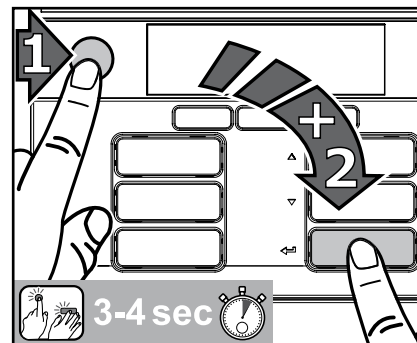

Fig. 23
1. Press first the STOP button and then the enter button ◀ and hold them pressed simultaneously for 3-4 seconds to enter the cleaning mode (fig. 23).